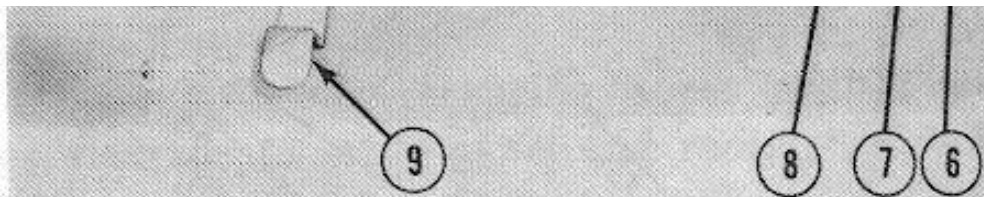
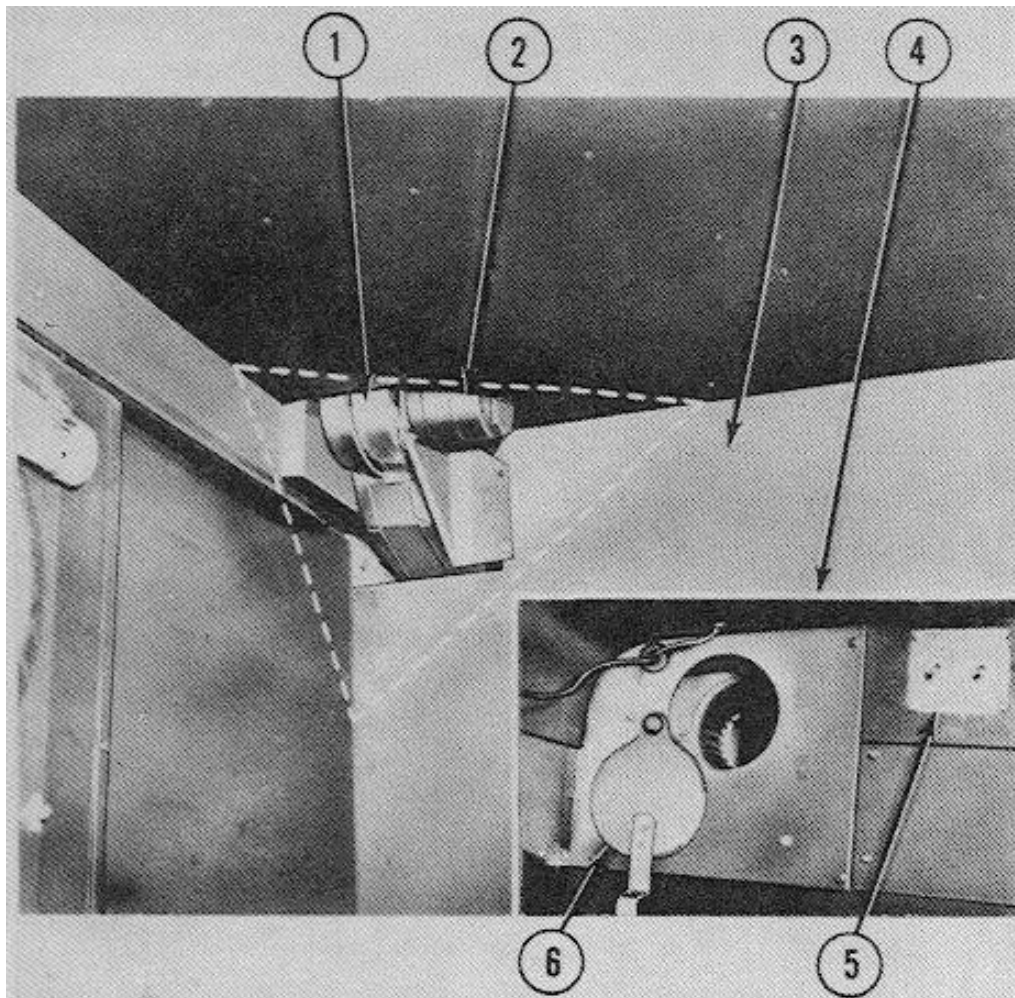

Figure 2-99 Air duct door control
Figure 2.100. Exhaust fan assembly
e. Exhaust Fan Assembly. (Fig 2-100)
- (1) From cab side, remove the triangular fan cover.
- (2) From the patient compartment side, remove the rear vent duct cover (fig 2-99).
- (3) Disconnect the wire harness connectors.
- (4) Remove the three cap screws holding the fan and motor to the bulkhead and the two cap screws holding the motor to the side wall. (Fig 2-100)
- (5) Remove motor assembly.